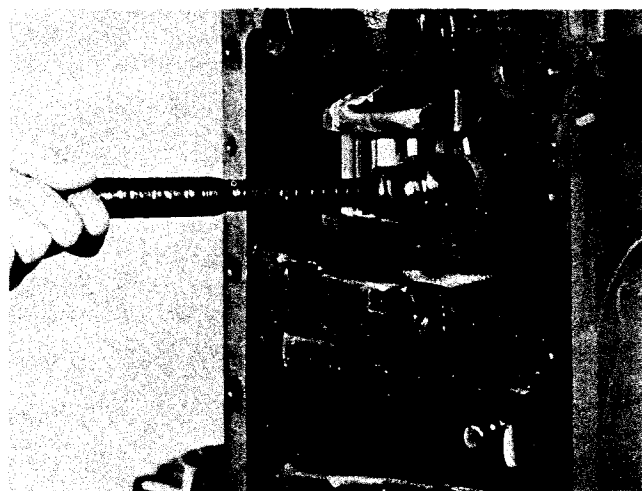

Fig. 0-33, (N100154). Removing piston and rod assembly
3. Push connecting rod and piston assemblies from cylinder liners. Fig. 0-33. Use care not to damage cylinder liners as connecting rods are withdrawn. Check each rod and cap as removed to be sure it is stamped or labeled. Reassemble each connecting rod cap to mating rod, tape mating bearing shells together and label by cylinder.